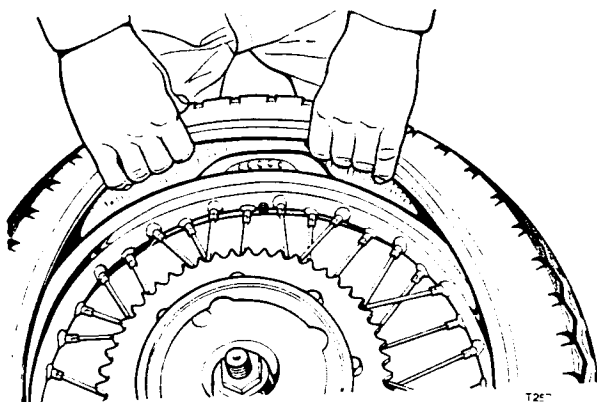
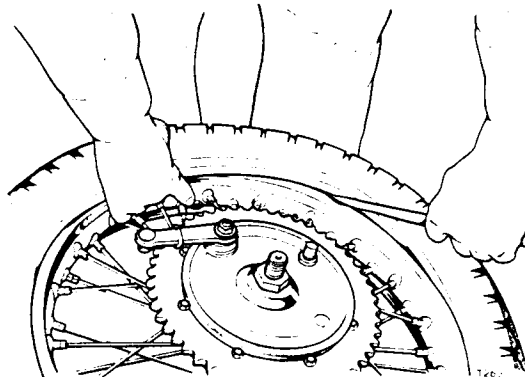

Fig. F21. Placing the security bolt in position
Fig. F22. Refitting the second bead with the security bolt in position
- (2) Fit the first bead to the rim without the inner tube inside.
- (3) Assemble the security bolt into the rim, putting the nut onto the first few threads (see Fig. F21).
- (4) Partly inflate the inner tube and fit it into the tyre.
- (5) Fit the second bead but keep the security bolt pressed well into the tyre, as shown in Fig. F22 and ensure that the inner tube does not become trapped at the edges.
- (6) Fit the valve stem nut and inflate the tyre.
- (7) Bounce the wheel several times at the point where the security bolt is fitted and then tighten the security bolt nut.